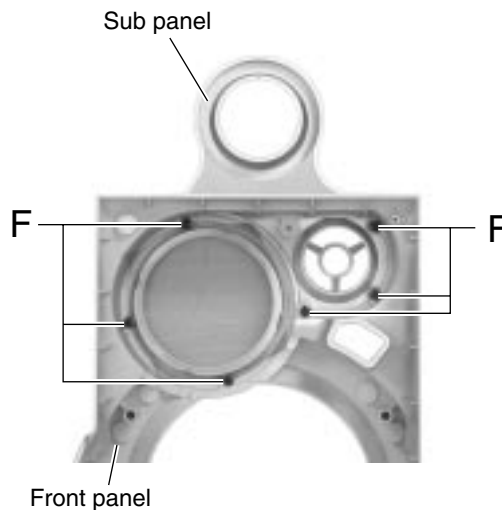

Fig.6
■ **Removing the sub panel (See Fig.6 )**